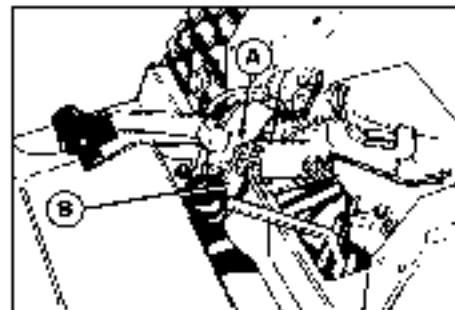

Figure 25. Speed Control Lever
4. Loosen the shoulder bolt (A, figure 25) so it is free to slide in the slot.